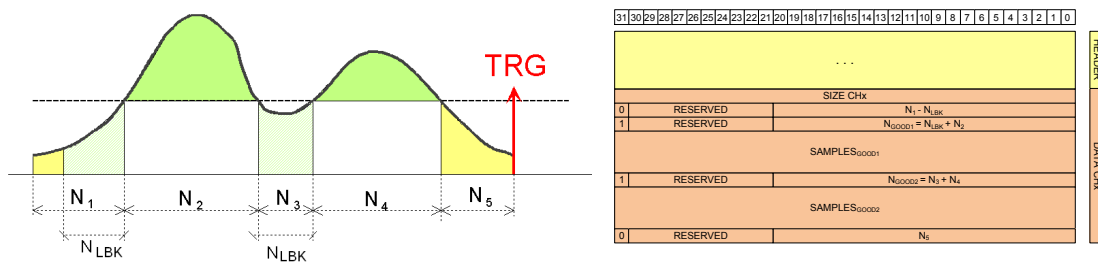

Fig. 8.12: Example with positive logic and N_{LBK} overlapping with N_3 .
3. Consider the case where N_{LBK} overlaps with N_3 ($N_3 \leq N_{LBK} < N_1$) and $N_{LFWD} = 0$. In this case all samples of N_3 are tagged as good and acquired. See for example Fig. 8.12. The same happens in case $N_{LBK} = 0$ and $N_3 \leq N_{LFWD} < N_5$.